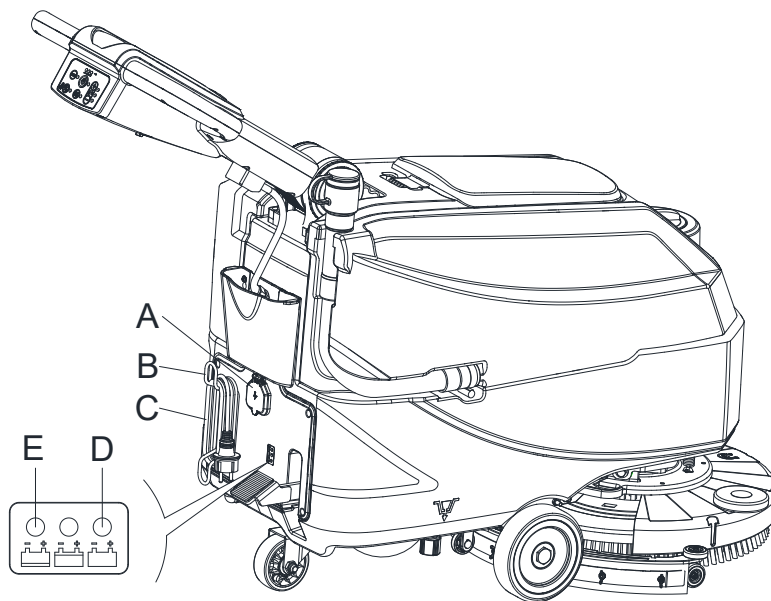

Figure 13
1. Connect the battery charger cable (C, Figure 13) to the electrical mains (A) the electrical mains voltage and frequency must be compatible with the battery charger values shown on the machine serial number plate (41, Figure 2). When the battery charger is connected to the electrical mains, all machine functions are automatically cut off. If the red warning light (E) on the battery charger control panel stays on, the battery charger is charging the batteries.
2. When the green warning light (D) turns on, the battery charging is completed.
3. When the battery charging is completed, disconnect the battery charger cable (C) from the electrical mains (A) and wind it round its housing (B).